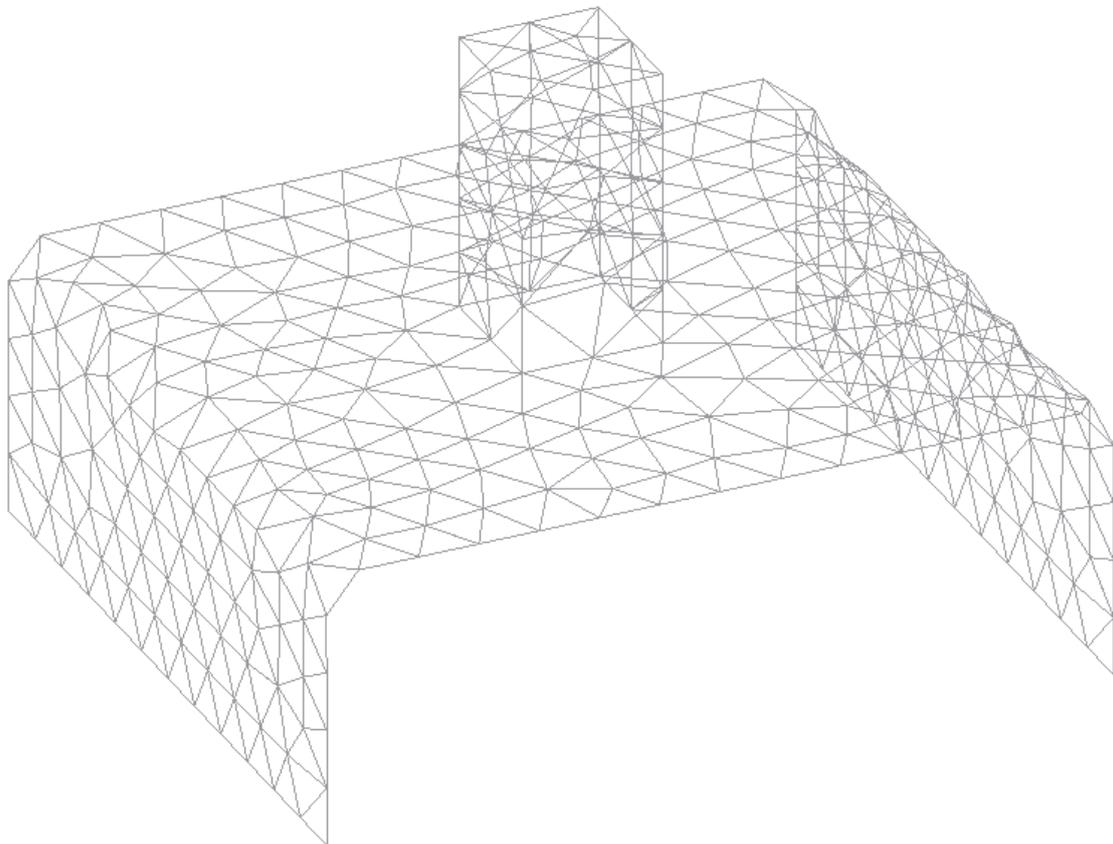
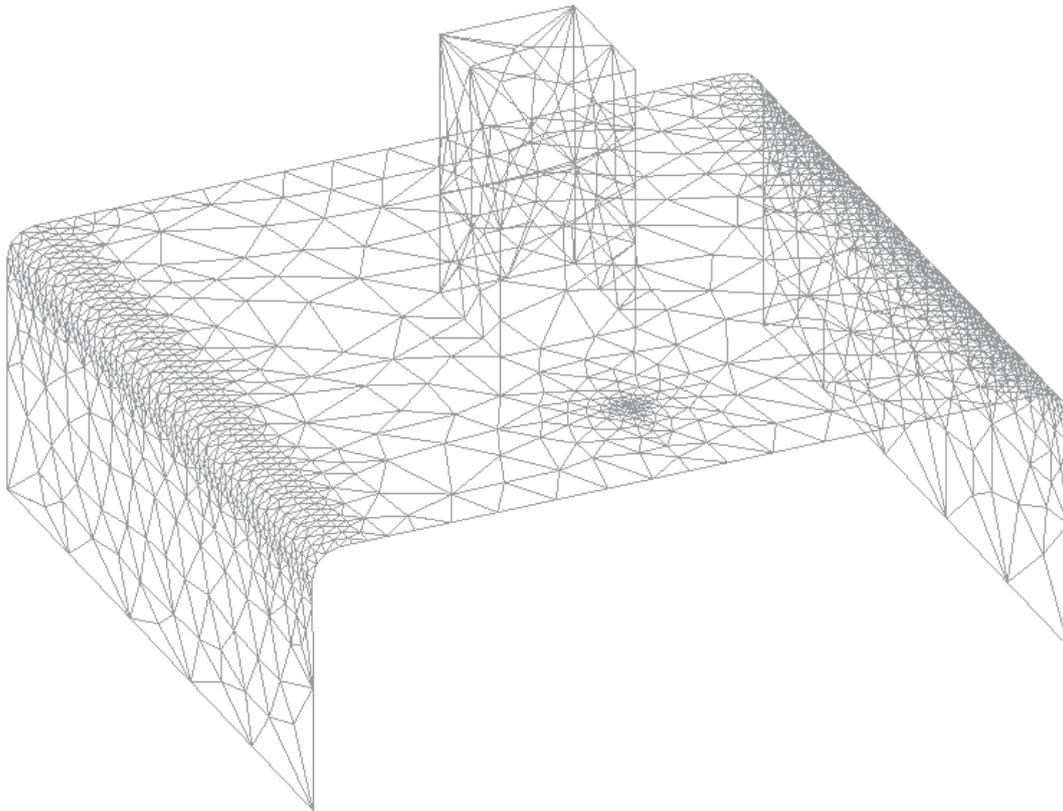

Figure 11. Mesh using the RJump mesher.
Figure 14. Mesh using the RJump mesher, assigning sizes by chordal error and forcing an entity to be meshed.
- 6 . In the generated mesh, the contact lines between surfaces that are tangent enough do not have nodes; contact points between lines tangent enough are also skipped when meshing (see Figure 11).
- 6 The resulting mesh is depicted in Figure 11. A high concentration of elements around point number 29 can be appreciated. Note that there are nodes on line number 43 because we have forced RJump not to skip this line (see Figure 14).